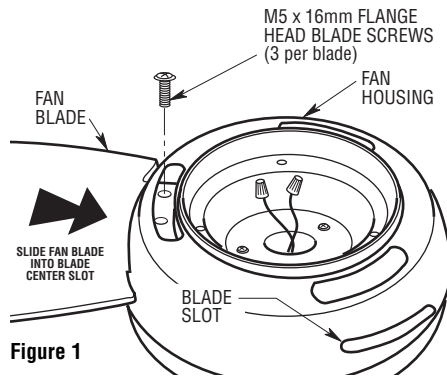

Figure 1
2. Slide blade through blade slot in fan housing assembly. Mount blade to fan housing using three M5 x 16mm flange head blade screws (Figure 1).